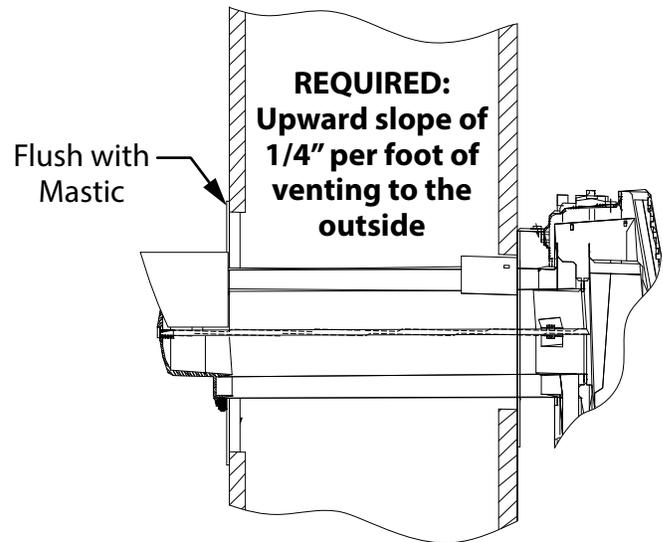

Figure 29
7. The outdoor mounting plate (F) and the silicon-rubber ring (G) should be installed between the vent cap (A) and the exterior wall. Note: For additional security the outdoor mounting plate (F) can be attached to the outside of the wall using the appropriate hardware for mounting to the surface of the building. The outdoor mounting plate (F) must be positioned flush to the wall and sealed with a non-hardening mastic (silicone caulk). Position the outdoor mounting plate (F) so that the vent-air intake pipe (C) has a slight upward slope of 1/4" per foot of venting to the outside.
8. Before attaching the vent cap (A) to the exterior wall, run a bead of non-hardening mastic (silicone caulk) around its outside edge, so as to make a seal between it and the outdoor mounting plate (F) (see figure 29).
9. Slide the vent cap (A) into position and secure into place using the provided nut (E). Tighten nut (E) down until the vent cap (A) leans against the outdoor mounting plate (F).